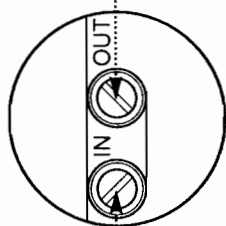

Fig. 36
8. With the system cold and all controls calling for heat check the gas pressure at the inlet tapping of the gas valve (Fig. 36). The pressure must be a minimum of 18.1 mbar (Working Pressure). Check that the gas rate is no greater than 3.3m³/h.